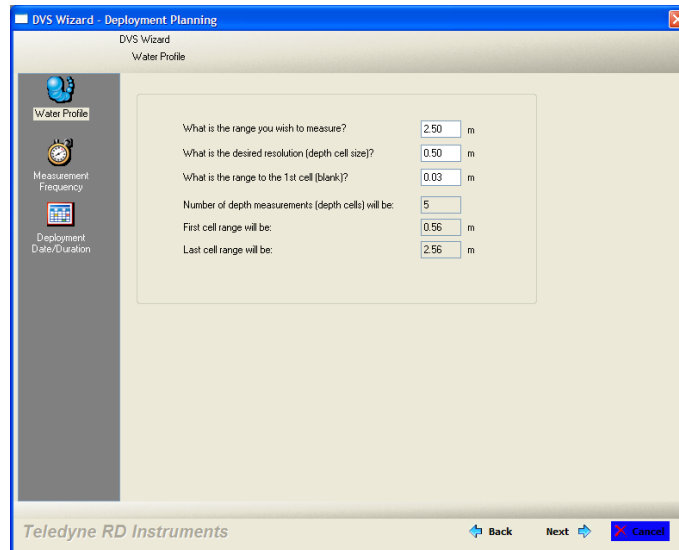

Figure 7. DVS Wizard – Water Profile
- e. Select the depth range (1 to 5 meters) you wish to measure (see Figure 7).